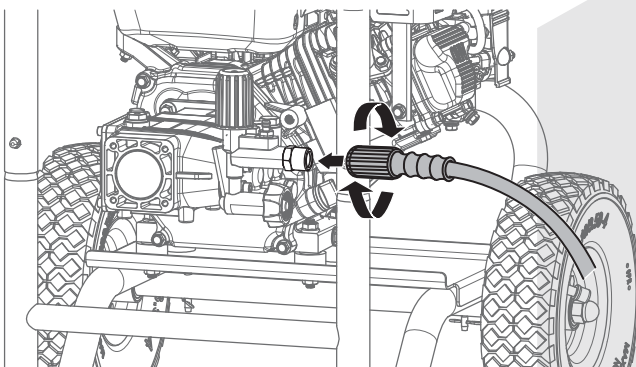

Fig 7
- d. Connect the open end of the high-pressure hose to the outlet of the pump by rotating the collar nut clockwise until it is hand tight. Fig 7.